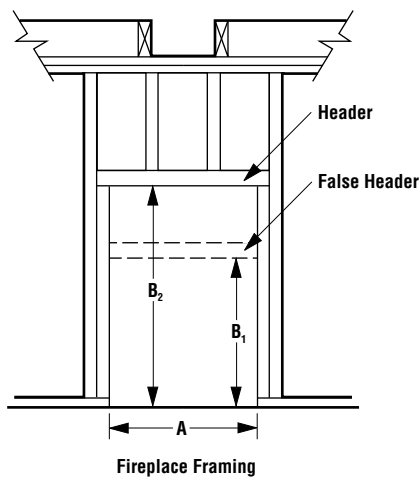

Figure 12
**Step 3.** Refer to fireplace drawings and specifications on pages 6 and 7 for framing dimensions and details. Frame appliance enclosure as illustrated in *Figures 12 through 15* on page 7.